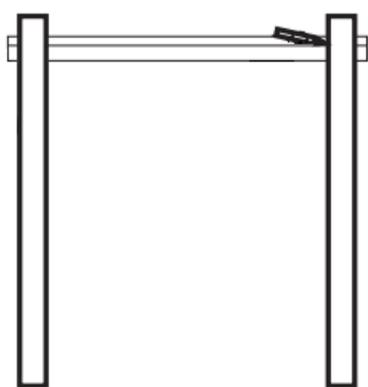

Fig. 7
1. Mark the aluminum bottom rail, bottom rail covers, and top rail for length by holding them next to the post.\* (see Fig. 7).